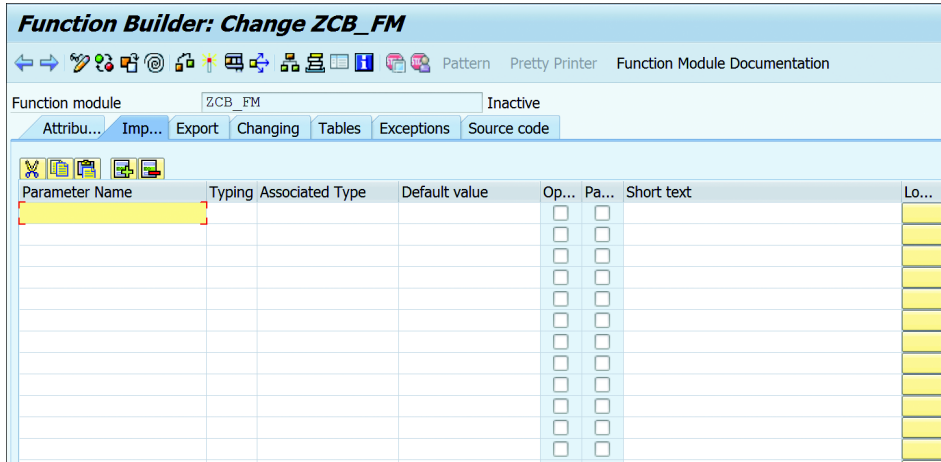

Figure 7.15 Function Module Editor
6. This will open the function module editor, as shown in Figure 7.15.